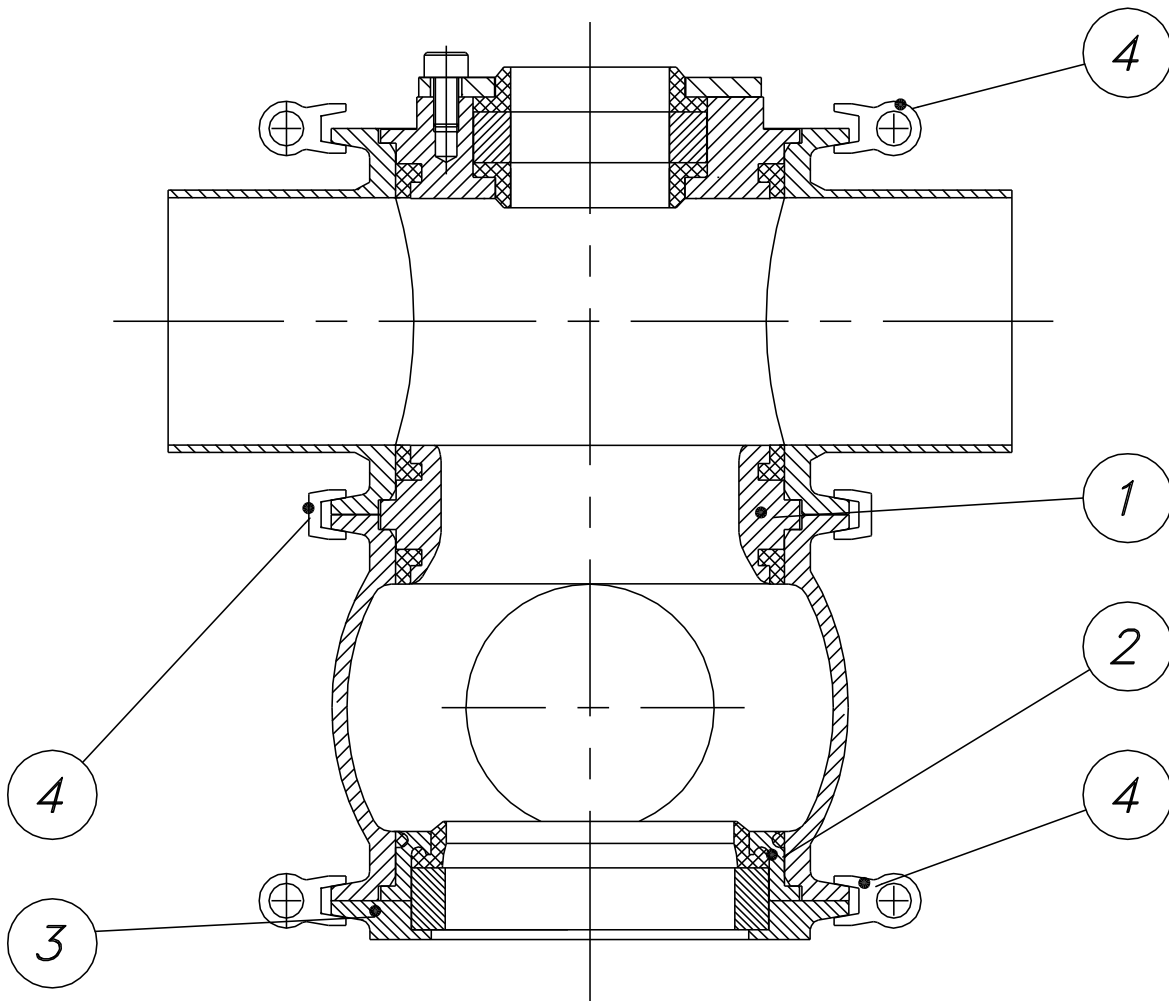

Fig MBCSP2
7.0 BODY COMPONENTS (Fig MBCSP2)